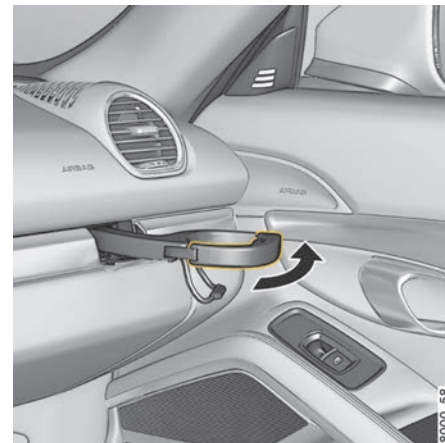

Fig. 73: Pulling cupholder out
1. Pull out the holder (Fig. 73).